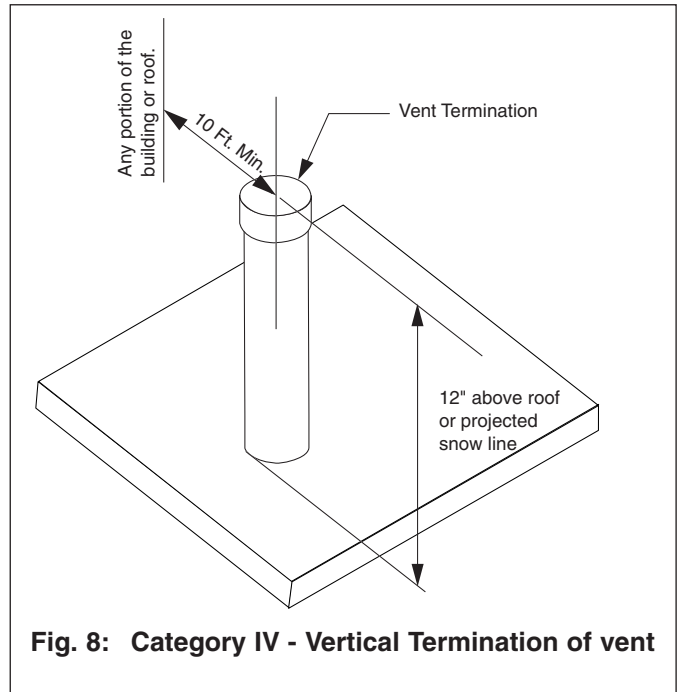

Fig. 8: Category IV - Vertical Termination of vent
3. The vent must terminate vertically with a coupling and must be located 12 inches [304,8 mm] above the roof or projected snowline as shown in Fig. 8.
3. Locate the vent pipe penetration to provide minimum clearances as described in Fig. 8 page 13.
3. The vent piping must terminate vertically with a coupling as shown in Figs. 8 & 9.
Do not extend the vent pipe outside the roof beyond the given dimensions shown in Fig. 8 page 13.